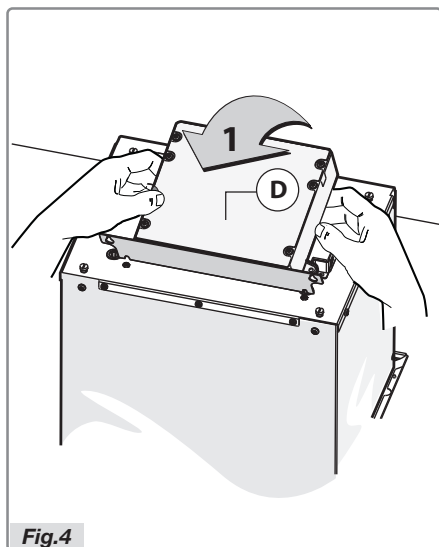

Fig.4
- To install the cooker hood fit the electric unit upright (Fig.4).